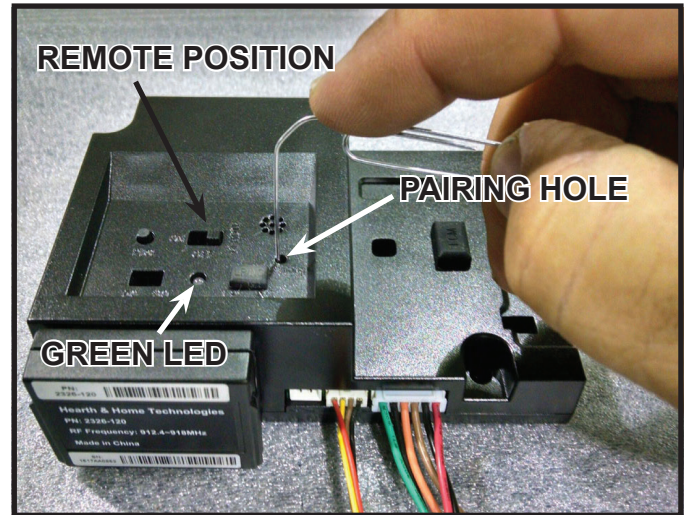

Figure 4.11. Pairing IFT-ECM
2. Locate the pairing hole on the IFT-ECM. See Figure 4.11. Using a paper clip or similar item, press and release the pairing button. The IFT-ECM will “beep” once and the green LED will blink for 14 seconds. During the 14 seconds, it is normal for installed accessories such as lights, fan, and Power Vent to energize momentarily.